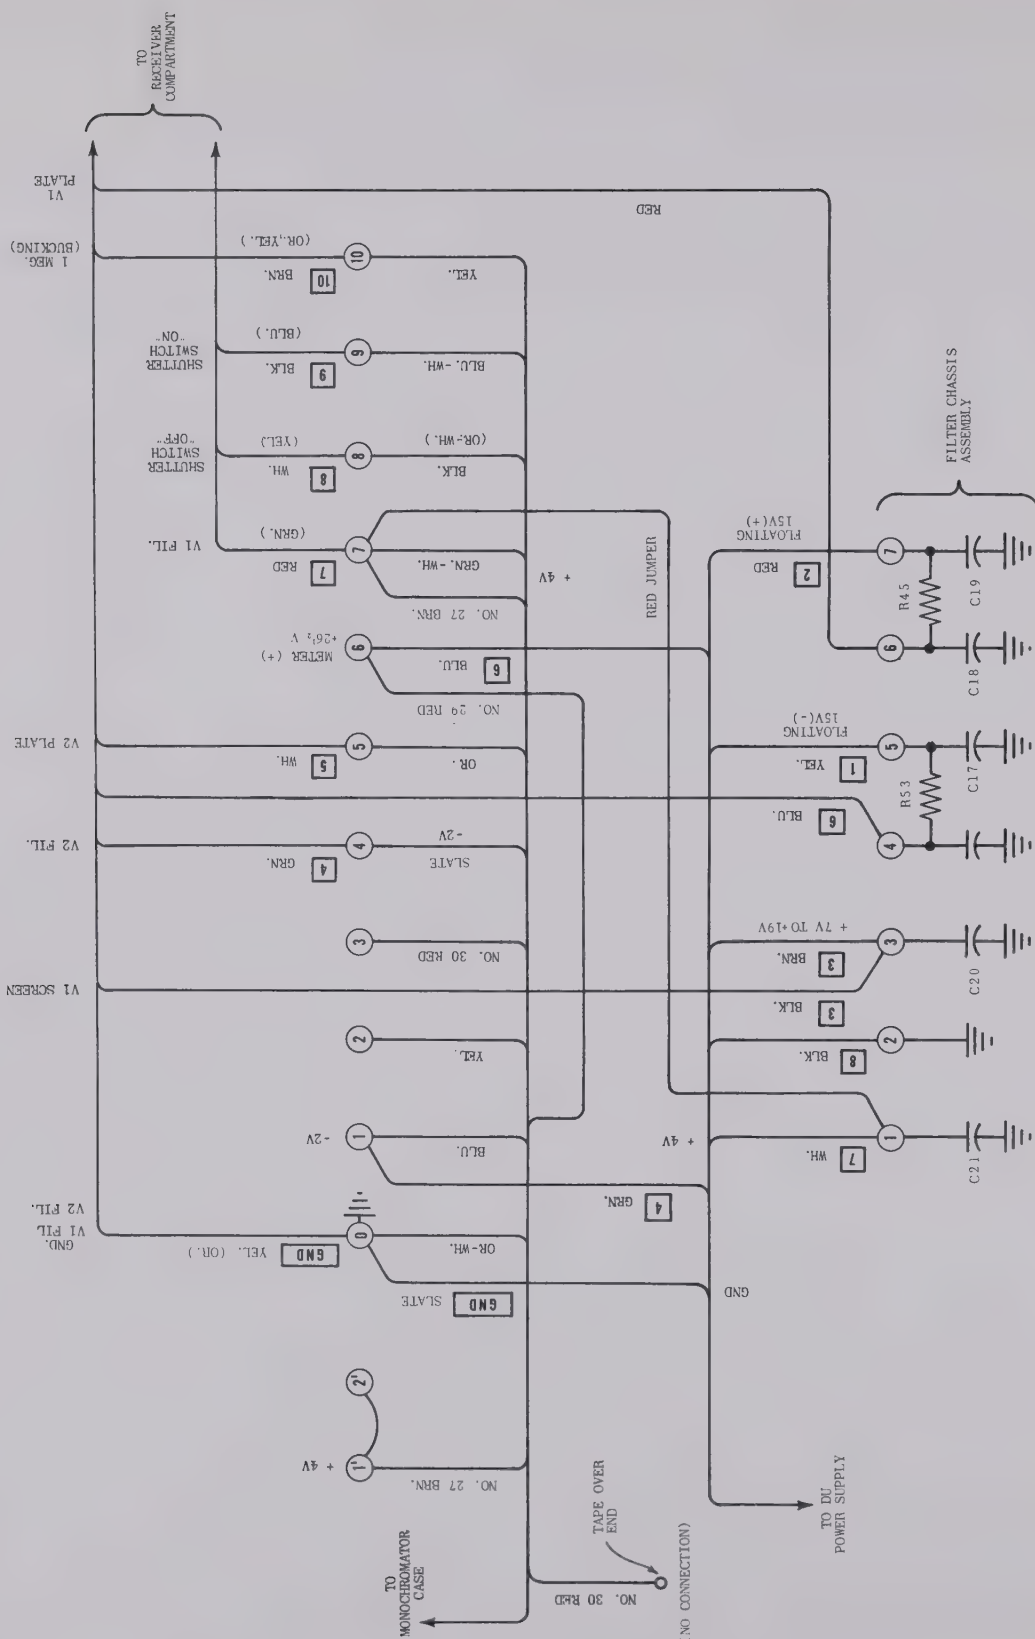

FIGURE 4. DU TERMINAL STRIP WITH POWER SUPPLY CONNECTED
Figure 3 illustrates the terminal strip connections of a standard DU Spectrophotometer which has not been modified previously. Terminal strip connections of the standard DU with the Power Supply added are indicated in Figure 4. Terminal strip connections of a DU modified for use with the SERA or the ERA are shown in Figure 5.
- (10) Replace nut removed in (8) attaching Filter Chassis Assembly and terminal strip to instrument. Tighten nut securely.
- (11) Connect Red jumper from Filter Chassis terminal 1 to terminal 7 on DU terminal strip.
- (12) Remove Black lead from terminal 3 on DU terminal strip and connect this lead to Filter Chassis terminal 3.
- (13) Remove Blue lead from terminal 6 on DU terminal strip and connect this lead to Filter Chassis terminal 4.
- (14) Connect Red lead formerly on Battery 6 (+) to Filter Chassis terminal 6.
- (15) Connect Red lead formerly on Battery 4 (+) to terminal 6 on DU terminal strip.
- (16) Tape end of Red lead formerly connected to Battery 1 (+). (No connection.)
- (17) Feed cable from Power Supply Unit into Battery Compartment through hole in left end formerly occupied by Battery Cable.
- (18) Connect Power Supply cable leads as indicated below: (Refer to Figure 4.)